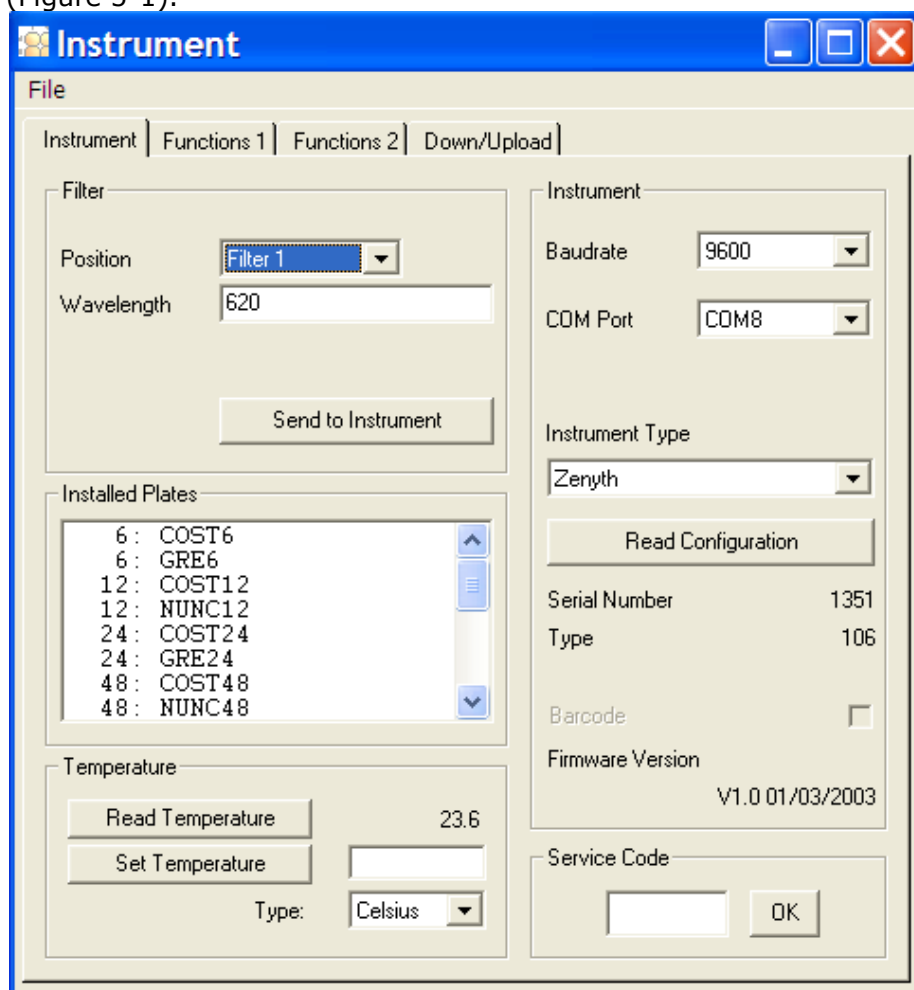

Figure 5-1: Instrument
1. From the Setup menu, choose **Instrument**. Instrument appears (Figure 5-1).
2. In the ADAP software, from the Setup menu, choose **Instrument**. Instrument appears (Figure 5-1).